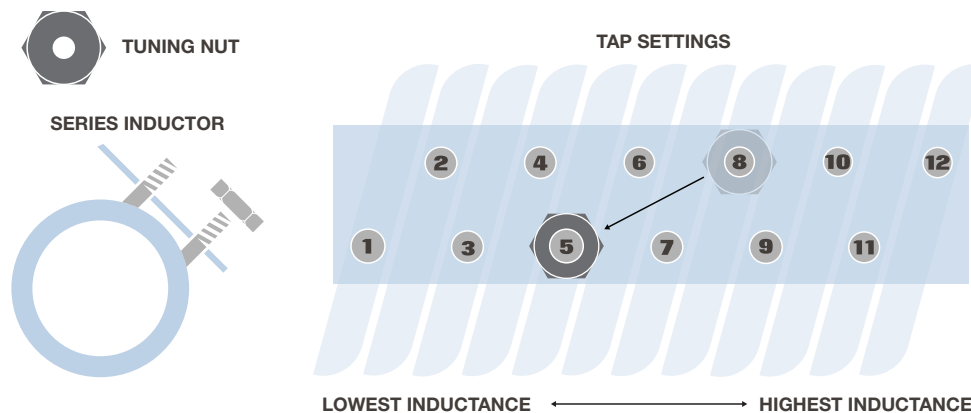

Figure 5-1: Series Inductor Adjustment
**Step 3.** Remove and place tuning nut as desired (Figure 5-1)